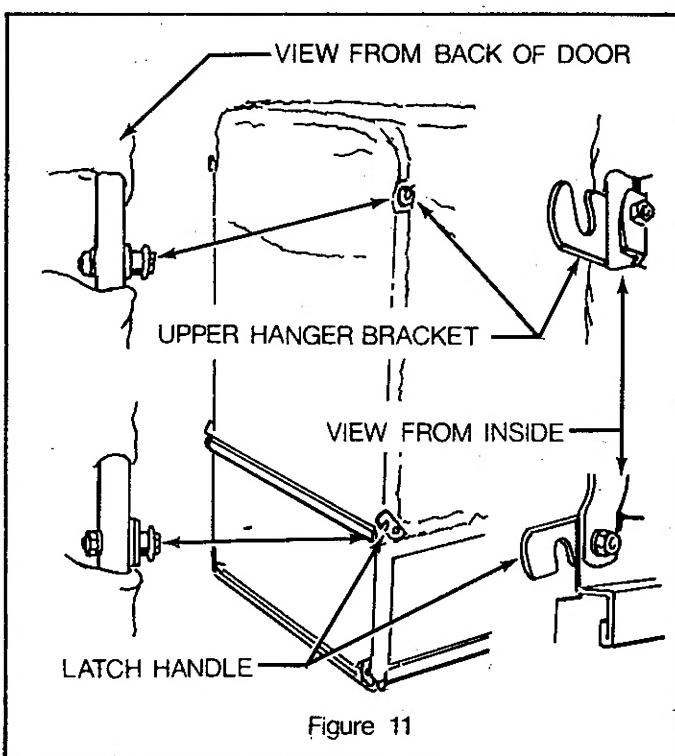

Figure 11
- Install the rear door catches (Figure 11.)
- Engage the upper door frame side capscrews in the upper hanger brackets and push the bottom edge into place in the box bed. Engage the rear latches to the lower door frame side capscrews (Figure 11).